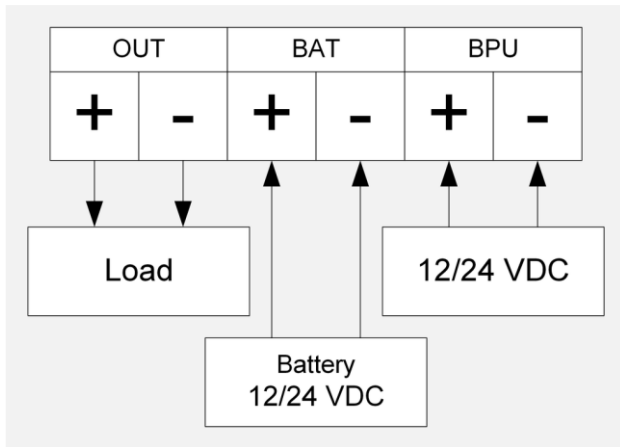

Fig. 1 Connection diagram.
4. Connect the cables from the external connected units and power supplies to the APS-120 terminals according to the connection diagram (see Fig. 1).